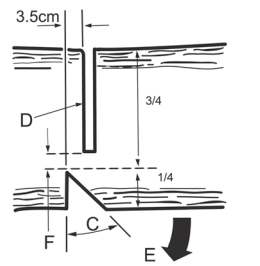

FIG. 1
Usually, felling a branch consists of two main cuts, the face cut (C Fig.1) and the undercut (D Fig. 1), which is needed to fell the branch.
- Begin with the face cut (C) on the side of the branch facing the direction of the fall (E).
- The cut must be as deep as about $\frac{1}{4}$ of the trunk diameter (F).
- After this operation, make the cut (D) on the other side of the branch at about 3-5 cm above the height of the face cut (Fig. 1).